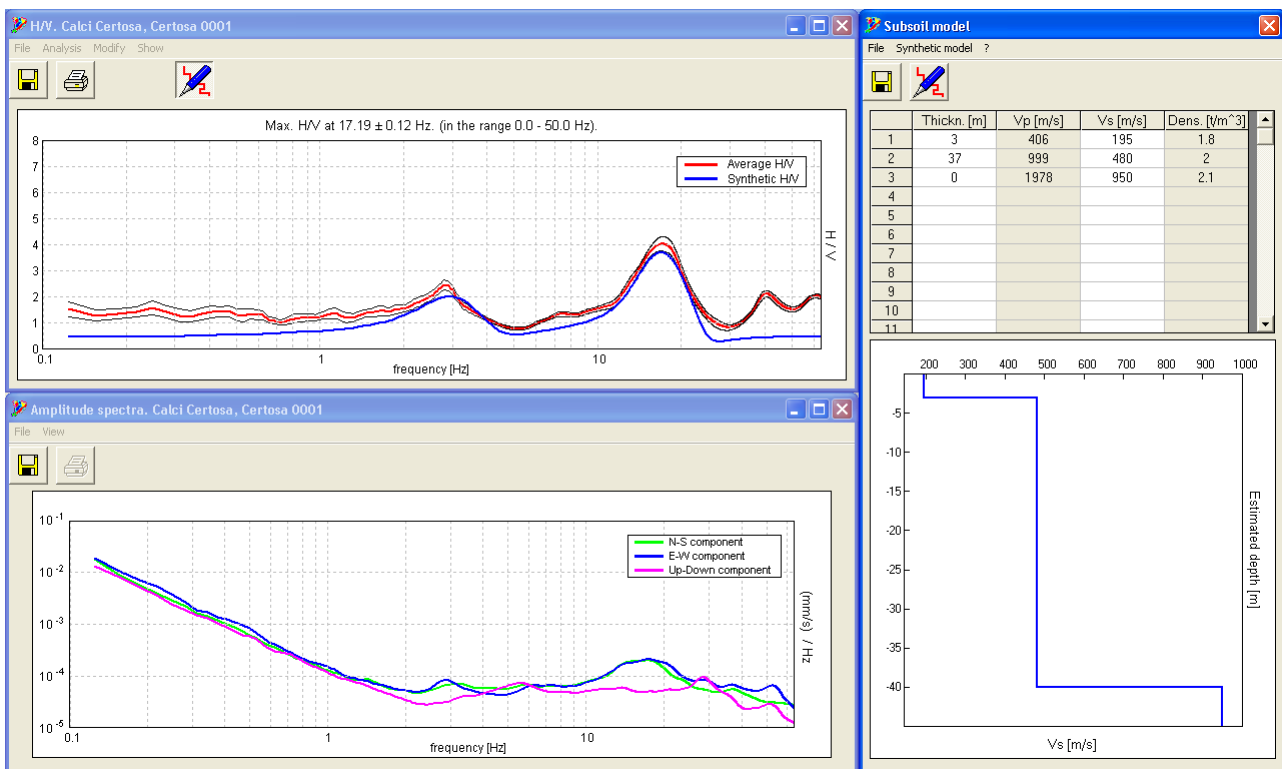

Figure 7.
*Example.* Consider the example of Figure 7. There is a clear peak at 17 Hz which can be associated to a *known* seismic discontinuity at 3 m depth. We can then fix the thickness of the first layer (3 m) and proceed with a first order estimate of its  $V_s$  ( $17 \text{ Hz} \times 4 \times 3 \text{ m} = 204 \text{ m/s}$ ).